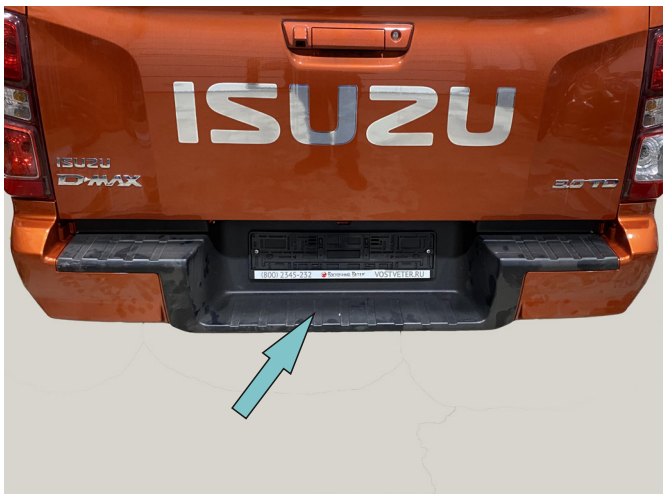
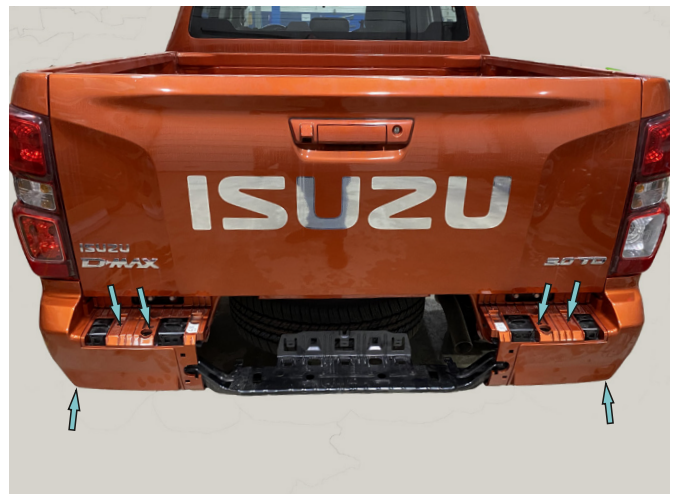

Fig. 3
Fig. 4
3. Remove central part of OE bumper, shown in fig. 3 and fig.4.
4. Remove OE plastic plugs on the sides of OE bumper, as shown in fig. 4.